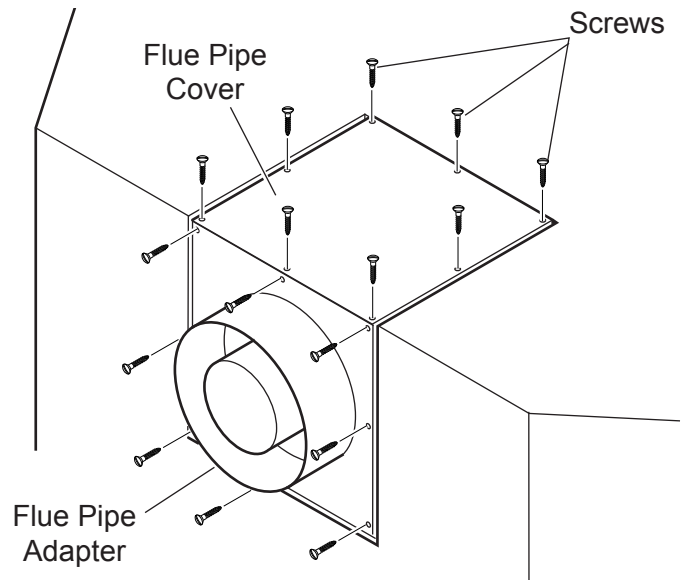

Figure 13 - Removing sixteen (16) Screws from Flue Pipe Adapter and Flue Pipe Cover
When installing into existing framed (A1) openings, loosen the junction box. Remove the rear-mounted flue pipe adaptor. See page 17, figures 13 and 14. Reattach both assemblies.
1. Remove the eight (8) screws securing the flue pipe adapter to the fireplace body. *See Figure 13.*
3. Remove the eight (8) screws securing the flue pipe cover to the top of the intake box and remove the cover and gasket. *See Figure 13.*